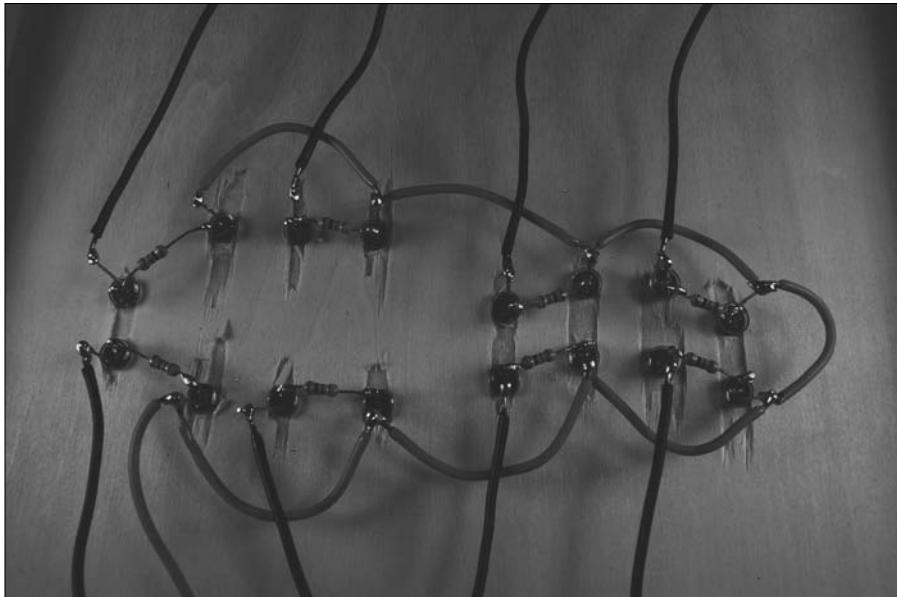

Figure 5-19:
11. Connect and solder a 12" 20 gauge black wire to the remaining short LED lead on each pair of LEDs, as shown in Figure 5-19.